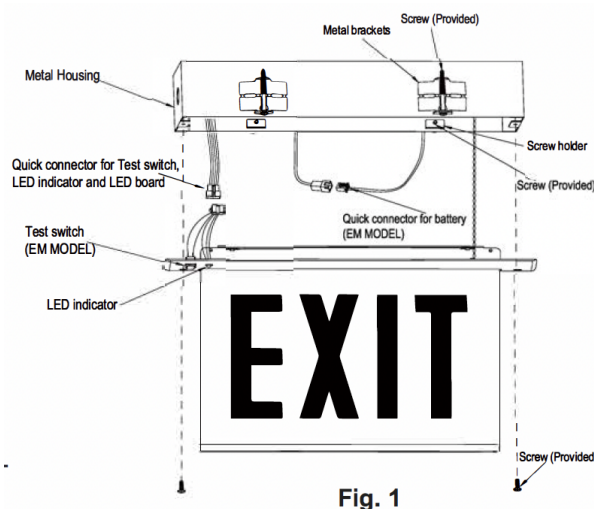

Fig. 1
1. Prior to installation, refer to Figure 1 for part identifications.